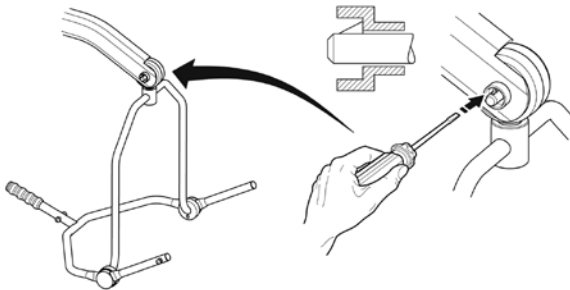

Fig. 1
1. To detach pin, depress the spring barb (Fig. 1 and 2).